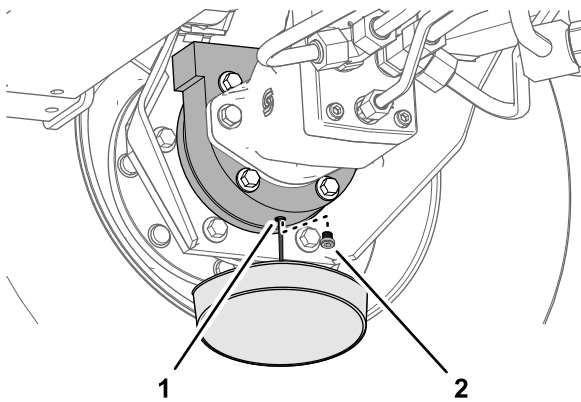

Figure 66
6. Place a drain pan under the brake housing, remove the drain plug, and allow the oil to fully drain (Figure 66).